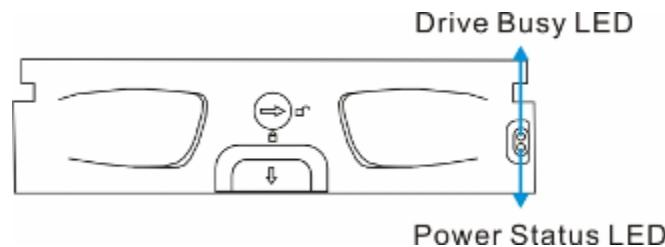

Figure 4-2: Drive Tray LEDs
Two (2) LED indicators are located on the right side of each drive tray. (See *Figure 4-2*) Refer to *Table 4-3* for the LED definitions. When notified by a drive failure message, you should check the drive tray indicators to find the correct location of the failed drive. Replacing the wrong drive can fatally fail a logical array.